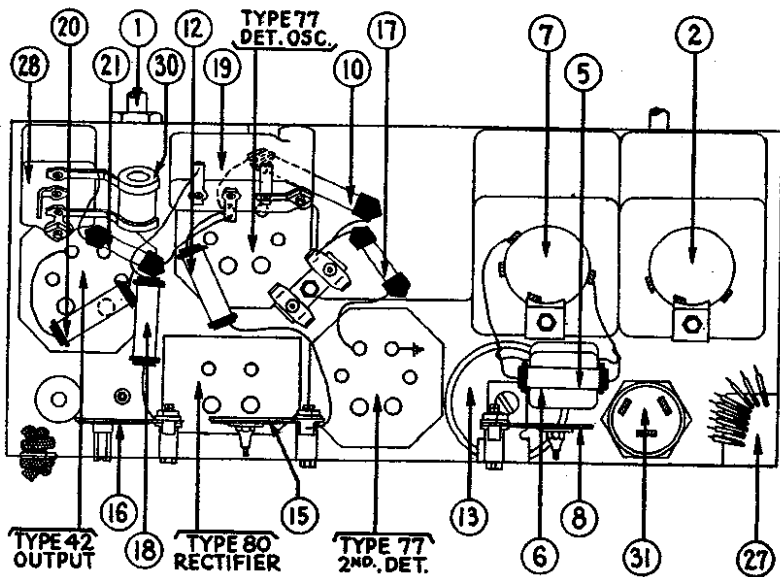

Fig. 4—Base View
In the paragraph titled "Police" of the alignment instructions on page 7-116 of *Rider's Volume VII*, it reads that the detector trimmer No. 11 should be adjusted for maximum output. This should be trimmer No. 12 to conform with the layout of Fig. 4 at the top of the page.
*Does not show in Fig. 4.